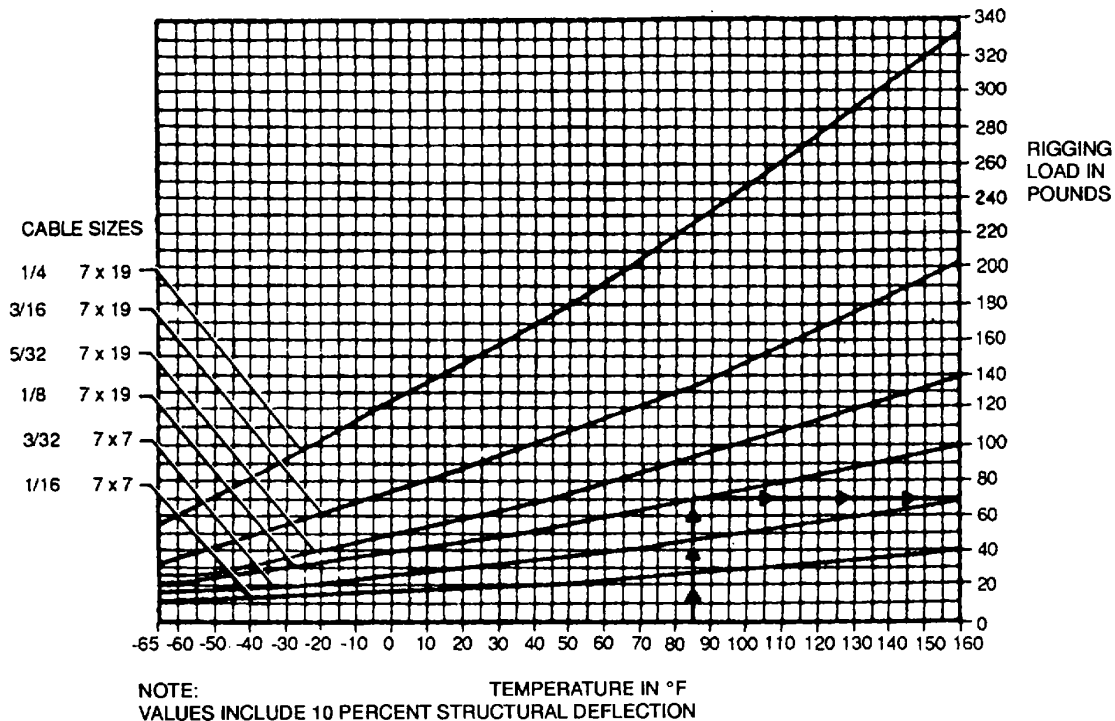

Figure 7-7. Typical Cable Rigging Tension Chart
d. Cable Rigging Tension Charts. Cable rigging tension charts are graphic tools used to compensate for temperature variations. They are used when establishing cable tensions in flight control systems, landing gear systems, or any other cable-operated systems. A typical chart is shown in figure 7-7. To use the chart, proceed as follows:
(1) Determine the size of the cable to be tested and the ambient air temperature. For this example, assume that the cable is 1/8 inch in diameter, that it is a 7 x 19 cable, and the ambient air temperature is 85°F.
(2) Follow the 85° F line upward until it intersects the curve for the 1/8-inch cable.
(3) Extend a horizontal line from this point of intersection to the right edge of the chart. The value at this point indicates the required tension to be established on the cable. The required tension in this example is 70 pounds.